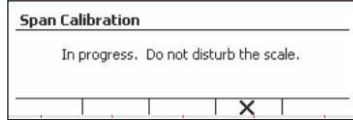

Figure 11
- Place a calibration mass of the specified weight on pan and press the softkey corresponding to the ✓ icon. To change to a different calibration point, input desired value and place the corresponding weight on pan for calibration. A suggestive message shows on the screen. (See Figure 11)